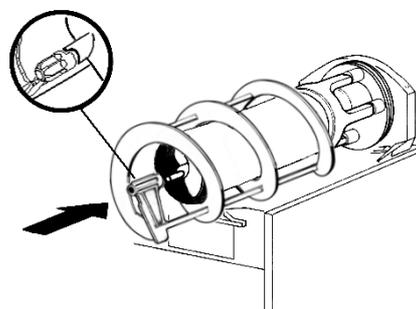

figure 14
- Install the outer spiral. Slide it over the evaporator until its front notch engages with the exposed end of the auger shaft (see figure 14).